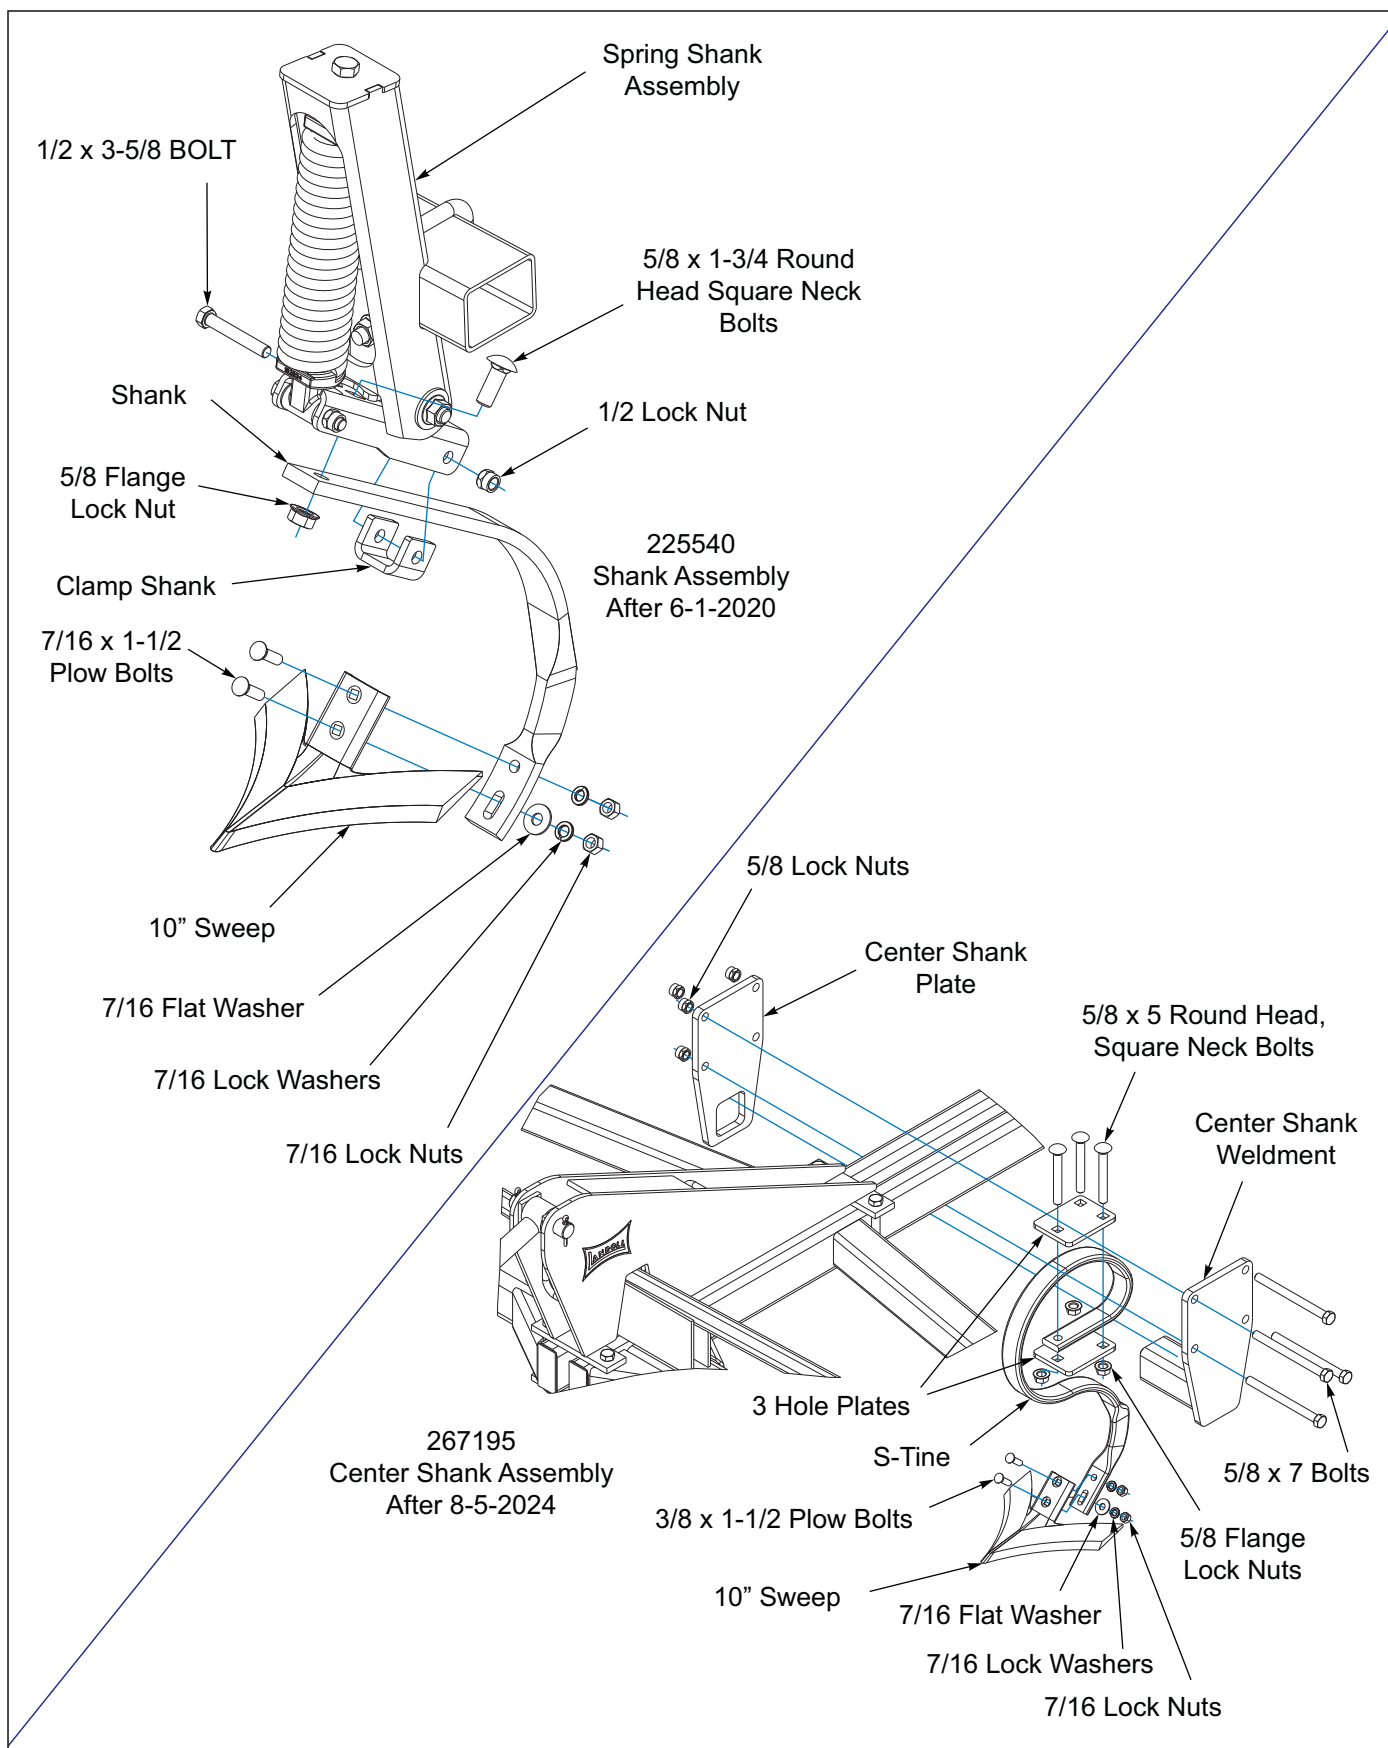

Figure 3-11: Spring Shank, Center Shank & Sweep Assembly (2 of 2)
7. Install shanks in spring shank assembly, **After 6-1-2020** *See Figure 3-11*. Slide shank into spring clamp assembly, slide clamp shank on bottom side of shank, secure with 5/8 x 1-3/4 round head square neck bolt and 5/8 flange lock nut.
9. Install center s-tine to frame, **After 8-5-2024** using center shank weldment, center shank plate, 5/8 x 7 bolts and 5/8 lock nuts *See Figure 3-11*. Secure s-tine with 3 hole plates, 5/8 x 5 bolts and 5/8 flange lock nuts.